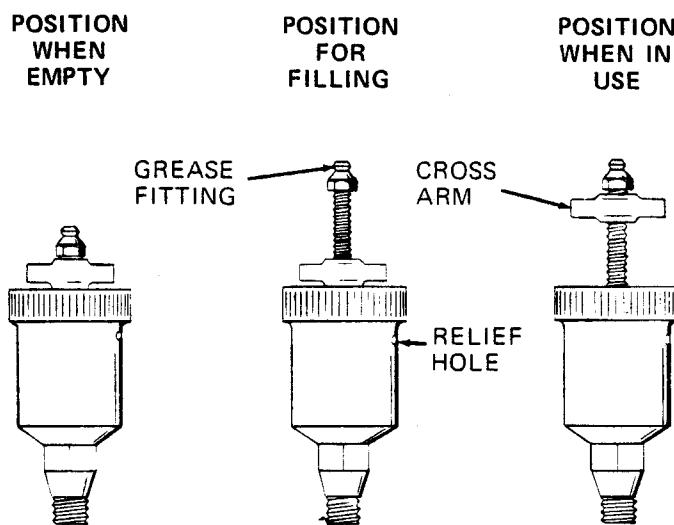

Figure 3. Automatic Lubricating Grease Cup
Before removing the seal assembly, turn the cross arm on the seal grease cup (8) clockwise until it rests against the cover (see figure 3). This will prevent the grease in the cup from escaping after the seal is removed.
Before starting the pump, fill the grease cup through the grease fitting with a good grade of No. 2 pressure gun grease until grease escapes from the relief hole. Turn the grease cup arm counterclockwise until it is at the top of the stem; this will release the spring to apply grease to the seal (see figure 3).